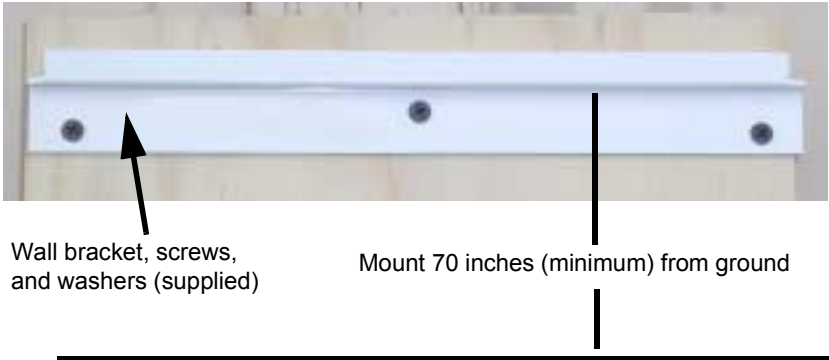

Figure 2-4 Bracket mounting
2. Using a level, place the mounting bracket up to the wall (in a horizontal position) and mark the area for the three screws, as shown in Figure 2-4. To achieve the 36-inch height from the bottom of the Sun Tie XR to the ground, mount the bracket 70 inches from the ground.